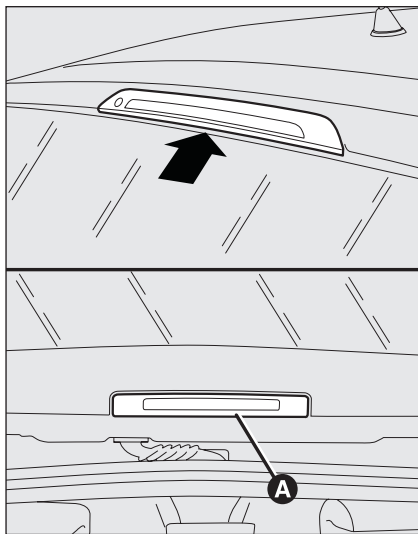

fig. 32
- ☐ remove cover **A-fig. 32**;
- ☐ refit cover **A-fig. 32** and then close the tailgate.